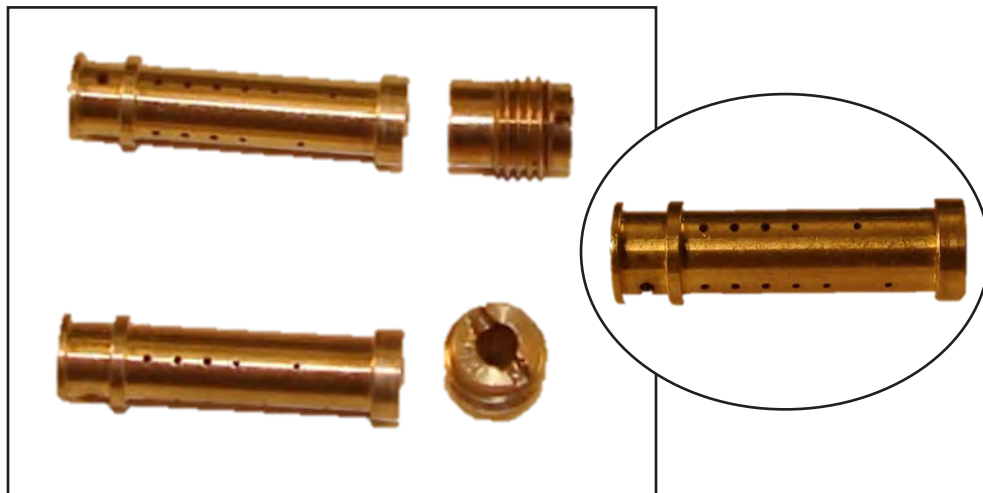

Figure 35
1. Install the main nozzle with the wider shoulder inserted first, double shoulder is last (Figure 35).